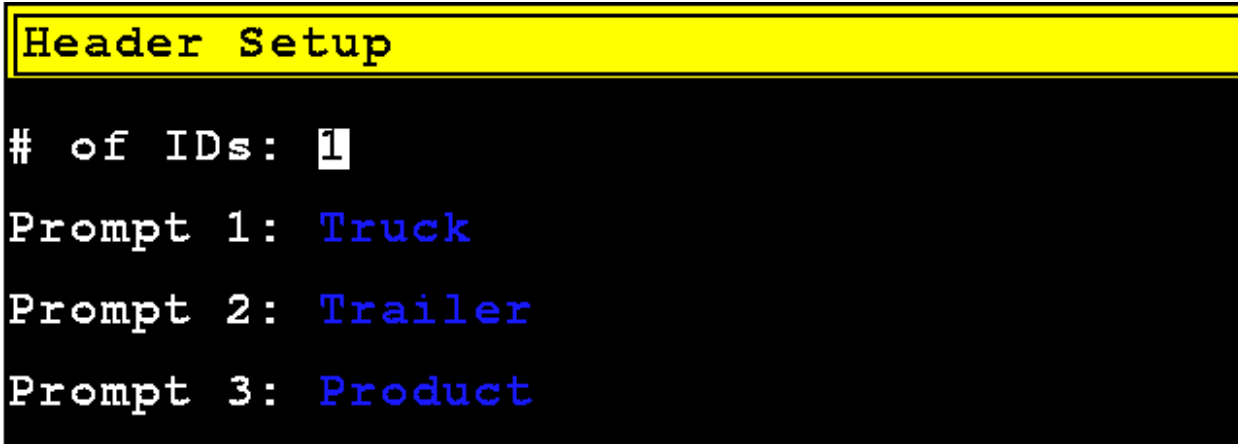

Figure 2: ID/Truck Storage Header Setup menu
2. Touch the **3. Setup** button or press “3” to access the setup menu (Figure 2).
3. Repeat step 3.1.2.1 for the number of linked ids defined in setup (Figure 2).